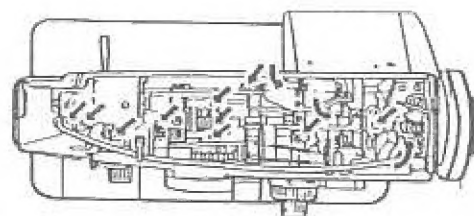

Fig. 77
4. Take off the arm cover by loosening the two screws with a screw driver. (Fig. 77)